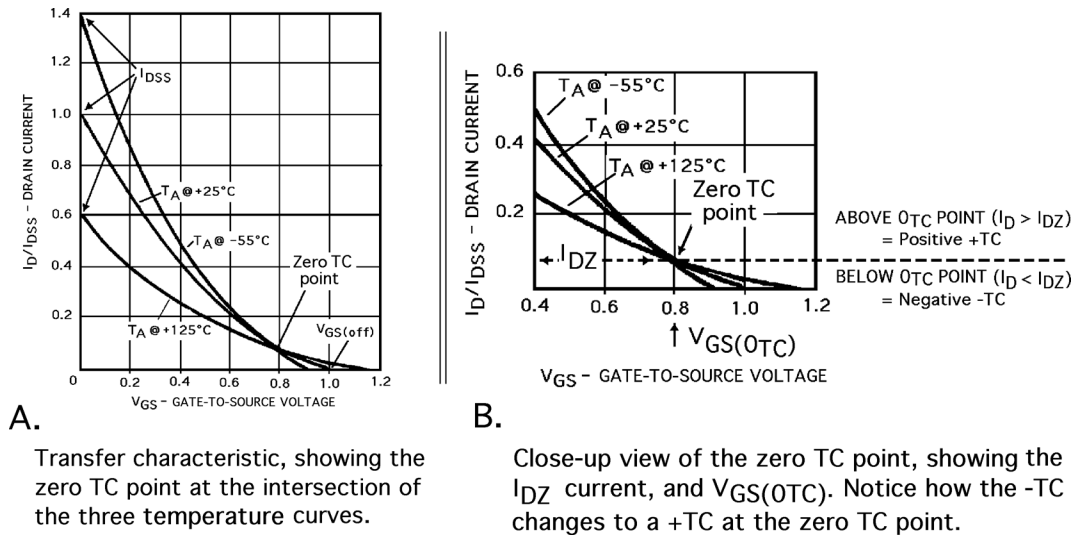

Figure 6.16. Examples of a JFET's Z_{TC} point.
In many current source applications, it may be necessary to bias the JFET at or near its *zero temperature coefficient point* (zero TC, TC0, or zero tempco). This is a unique point at which the drain current varies least (I_{DZ}), with changes in temperature (either large or small ΔT), and which provides added thermal and circuit stability. You can see an example of the zero TC point in Figure 6.16. Actually, I_{DZ} will change slightly from one device to another, because each device will have a slightly different value of saturation current (I_{DSS}), and I_{DZ} will change proportionally to that. The theoretical value of I_{DZ} can be found by:
10. This step involves looking at the graph of the transfer curve (I_D vs. V_{GS}) for each JFET on your checklist. Look at either the printed data sheet graph or the associated PDF file, if downloaded from a Web site. If a chosen device does *not* show a transfer curve, then you should move down the list and find another one that does. As shown previously, the transfer curve is a *very important* element in the design sequence, because it allows one to physically see just how close one's intended design is going to be in relation to the zero TC point. A zero TC means that there will be virtually no change or drift in the current through the JFET, over the intended temperature range. This is an ideal situation and should be one's goal (see Figures 6.16 and 6.17). From the JFET's transfer curve, record the approximate $V_{GS(0TC)}$ and I_{DZ} values in the checklist's right-hand column labeled zero TC point.